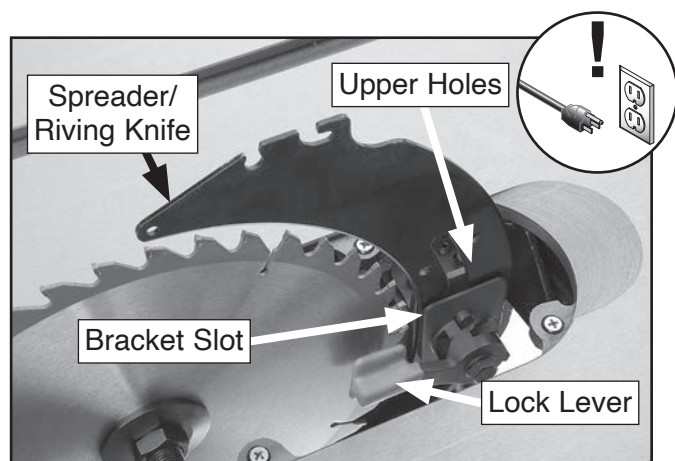

Figure 52. Lock lever used to secure spreader.
4. Insert *upper* set of holes on spreader/riving knife into bracket slot and tighten lock lever to secure spreader/riving knife (see **Figure 52**).